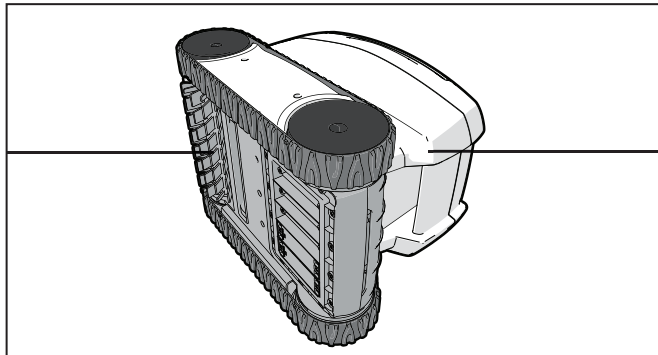

Figure 23. Stand Cleaner on its Side
1. Stand the cleaner on its side (Figure 23).